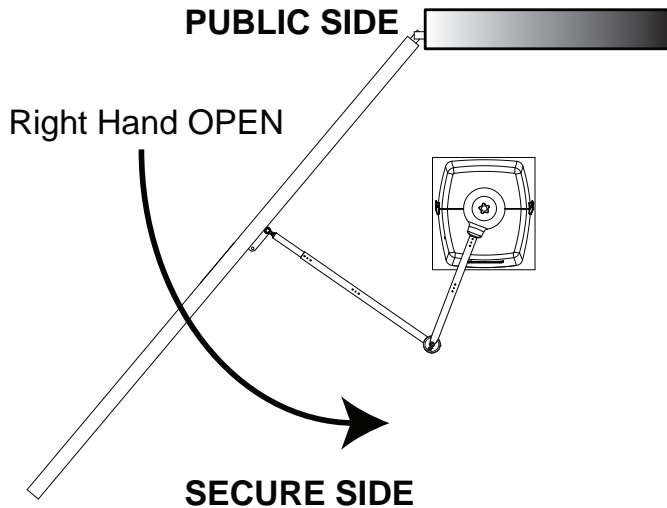
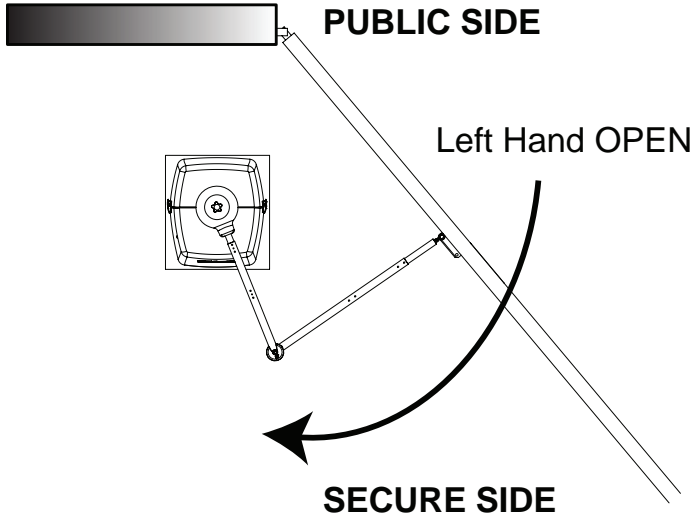

Figure 11. Right Hand Dual Gate Opening
Figure 12. Left Hand Dual Gate Opening
1. Determine whether the gate operator is a right-hand operator (Figure 11) or left-hand operator (Figure 12). Stand on the secure side of the gate. If the gate opens to the right, it is a right-hand operator.